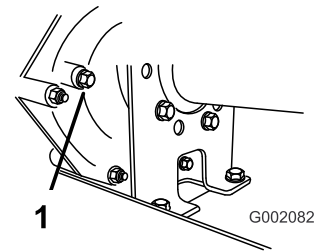

Figure 49
2. Remove the bolt from the level indicating hole (Figure 49).